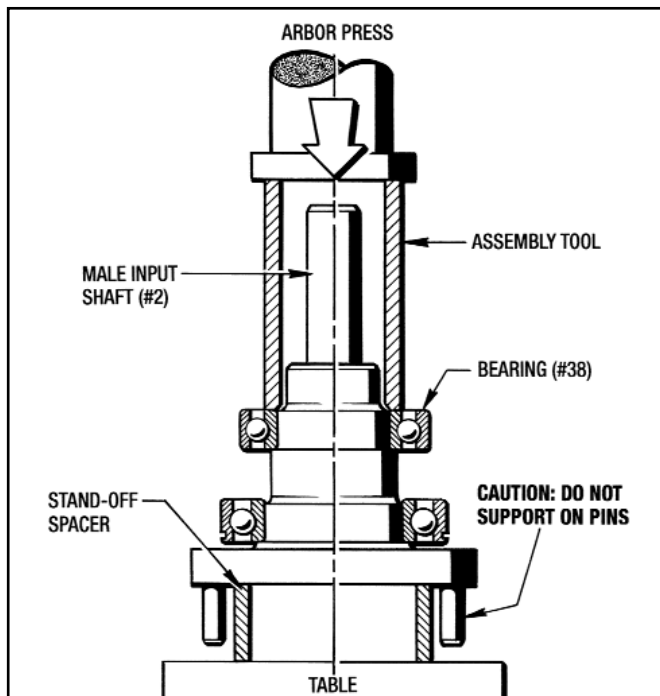

Figure 9.5 - Installing Outboard Bearing (#38) on Male Shaft
2. With an arbor press and the appropriate Assembly Tool, install Outboard Bearing (#38) onto the Input Shaft (#2) as shown in Figure 9.5.